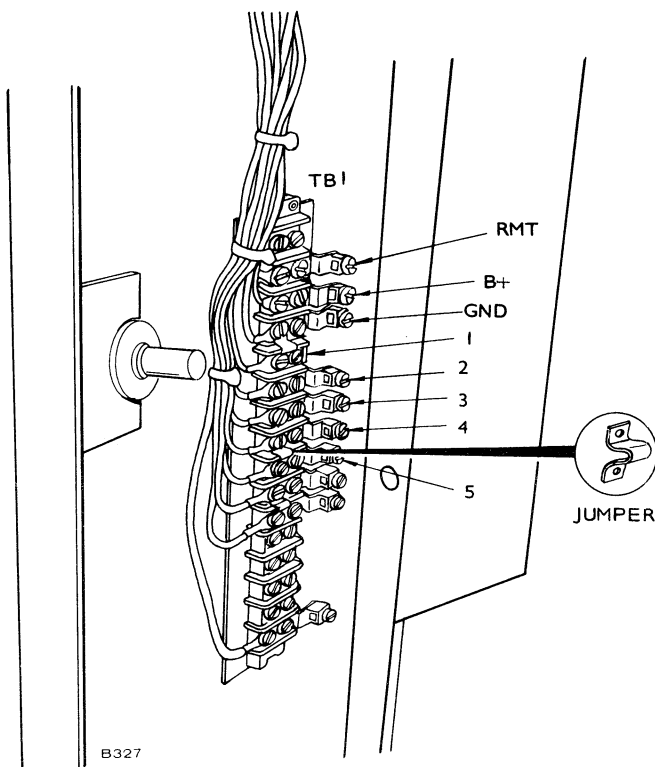

FIGURE 14. LOCATION OF TERMINAL BLOCK TB1
2. **DC Control Wires:** Connect the low voltage DC control wires from the automatic transfer switch terminal block TB1 to the generator set (Figure 14). Use number 16 wire up to 100 feet or 31 metres (maximum of 0.5 ohm per line).
- a. Remove terminal jumper located between terminals 4 and 5 of terminal block TB1 (Figure 14).